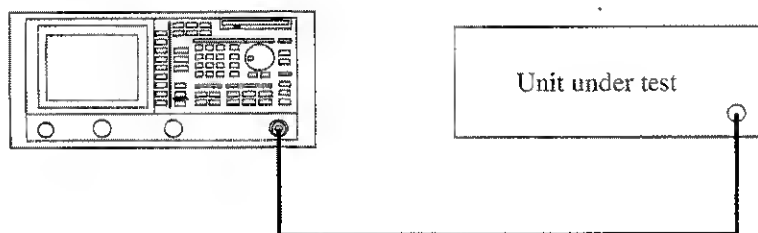

Figure 2-70 Setup for the Pass-Fail judgment
1. Connect the unit under test as shown in Figure 2-70.